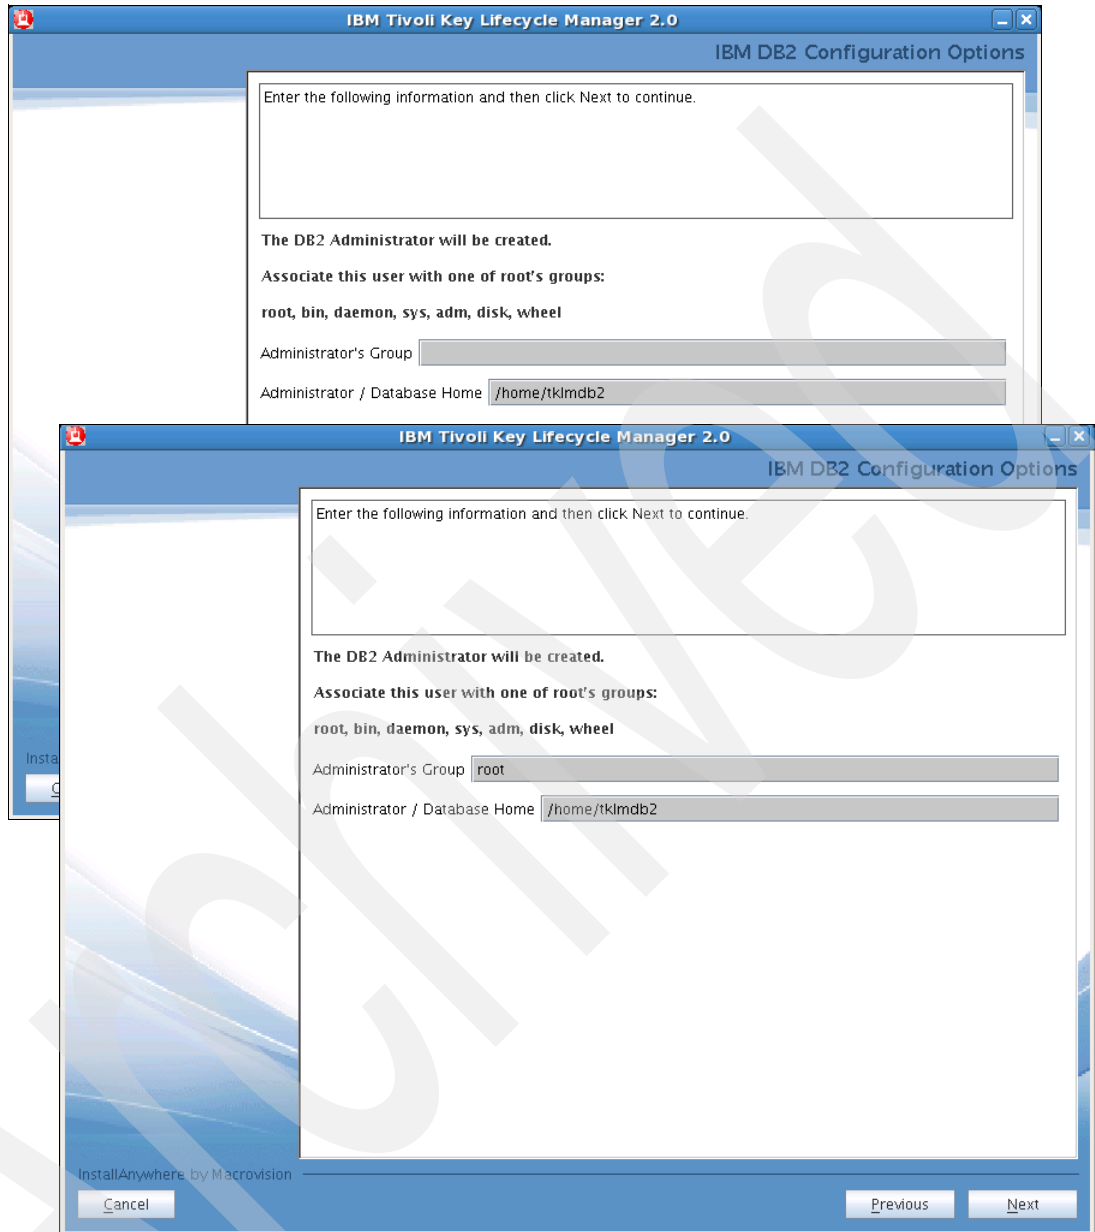

Figure 7-7 DB2 administration configuration
10. On the next configuration screen, enter **root** in the Administrator's Group field and leave the default DB2 directory. Click **Next** to create a DB2 Administrator group (Figure 7-7).